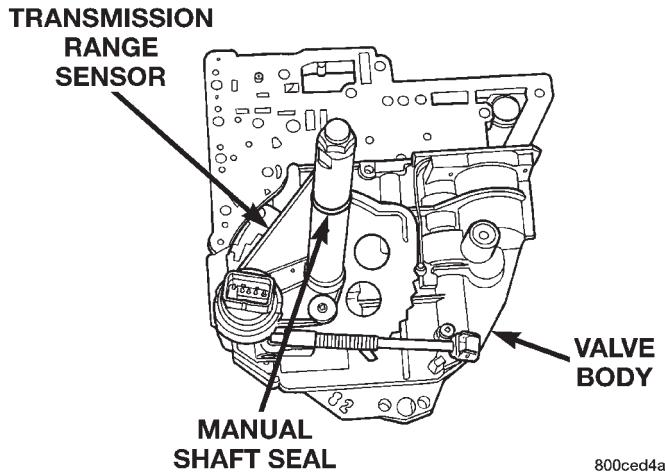

Fig. 34 Valve Body W/TRS
- (1) Disconnect battery negative cable.
- (2) Remove engine air cleaner and tube.
- (3) Remove gearshift cable.
- (4) Remove manual valve lever.
- (5) Disconnect transmission range sensor connector.
- (6) Hoist vehicle.
- (7) Carefully remove transaxle oil pan and drain fluid.
- (8) Remove transaxle oil filter. Let transaxle oil drain fully.
- (9) Remove valve body retaining bolts.
- (10) Extract park rod from guide bracket and remove valve body from transaxle.
- (11) Place valve body on workbench (Fig. 34).